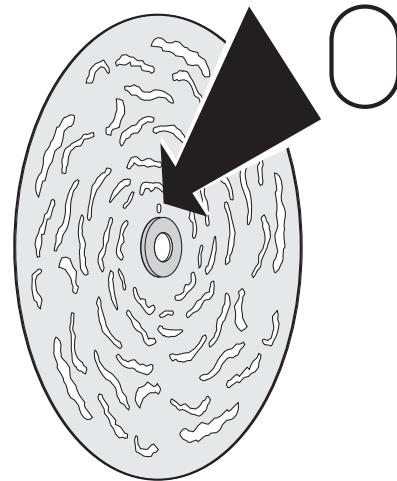

Figure 32: Gobo animation wheel locating cutout and magnetic ring
4. See Figure 32. When installing the new animation wheel, turn it so that the shiny side faces the lamp and the magnetic ring in the center of the wheel faces the hub in the luminaire. Then line up the lug that sticks out of the hub with the cutout in the wheel (arrowed). Making sure that the lug engages in the cutout, push the wheel so that it clicks into place.